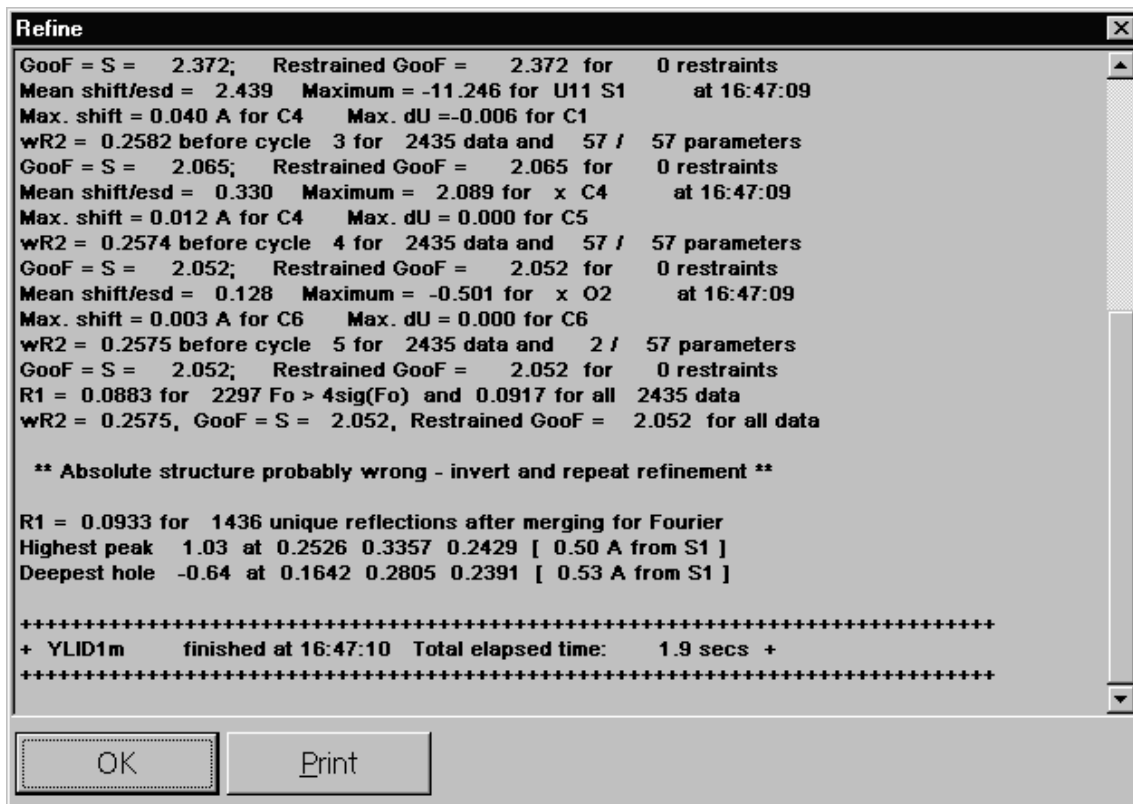

Figure 6-28. Least-squares refinement
31. Click OK to launch the XL (least-squares refinement) program (Figure 6-28).